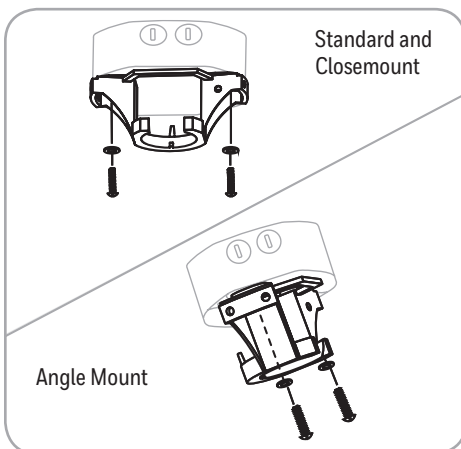

Figure 2.1
1. Install the mounting bracket to the outlet box (sold separately) using the screws and washers provided with the outlet box (Figure 2.1).